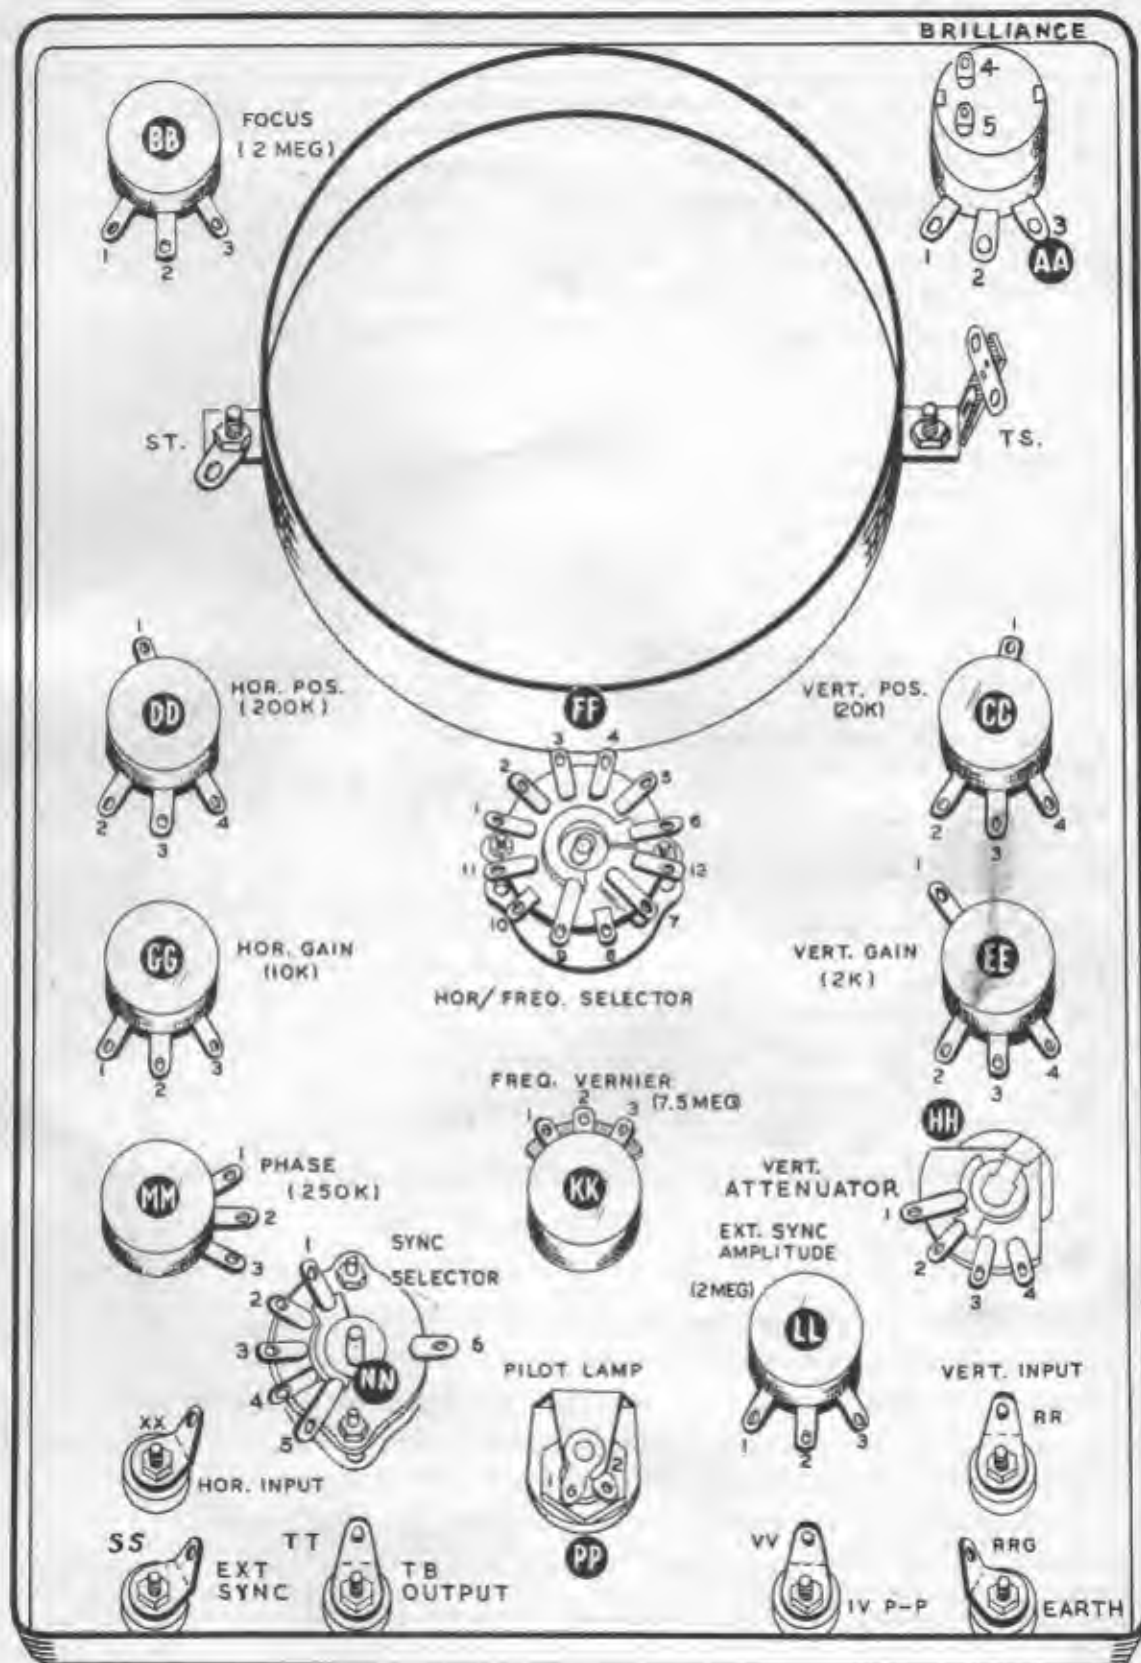

FIGURE 8.
- ( ) Mount the 500 K $\Omega$  BRILLIANCE control (insulated shaft) AA on the back of the panel, locating the terminals as indicated in Figure 8. Follow Figure 4 for assembly details.
- ( ) Mount the 250 K $\Omega$  PHASE control at MM, locating the terminals as shown in Figure 8.
- ( ) Mount the 5-terminal SYNC. SELECTOR wafer switch at NN, being sure that the terminals are oriented as shown in Figure 8. This control has a dummy tag for use as a tie point.